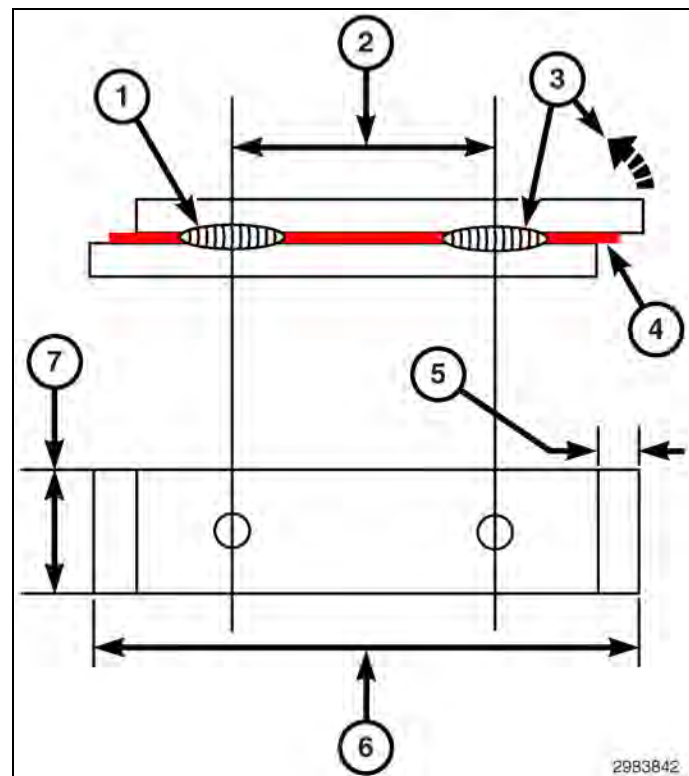

Fig. 10 Weld Coupon
3. Using the procedure outlined, (Fig. 10), prepare the test coupons.
8. As shown in (Fig. 10), place first weld at a position at least 12.5mm. (0.5 in.) away from end weld coupons. Then make the second weld. The weld spacing should be the same distance as the original welds or the closest existing weld, whichever is the least on the vehicle being repaired.